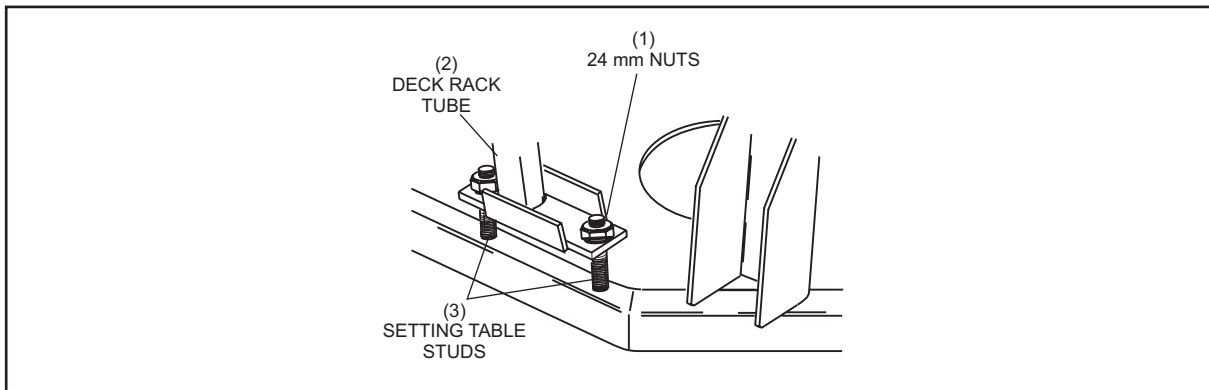

Figure 8-3. Removing Table from Deck Rack Tubes.
7. Remove the four upper 24 mm nuts that secure the table to the deck rack tubes. Refer to *Figure 8-3*.